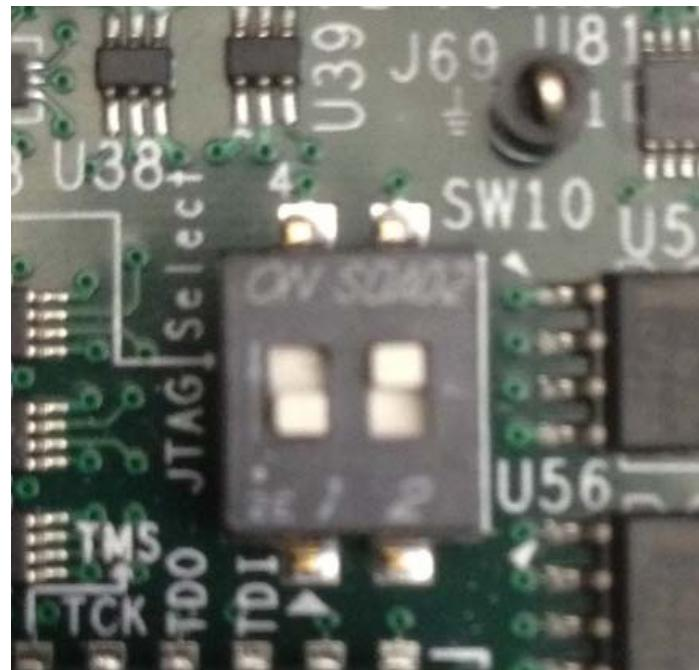

Figure 5-8: SW10 on a ZC702 Set to use Digilent USB JTAG
2. Connect a Digilent cable between the Windows host machine and the target board with the following SW10 switch settings, as shown in Figure 5-8.